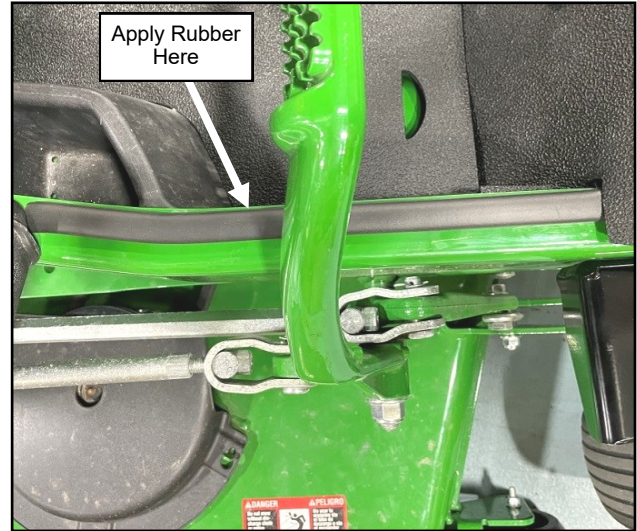

Fig. 1.41 (Install Rubber to Vehicle's Frame, Right)
1.41 Clean the vehicle frame rails on either side of the floorboard. Apply P.S.A. D-Rubber (9PR09) to the top surface of the frame rails. Apply along the inner edge of the surface as shown in Figure 1.41. Repeat for left side.